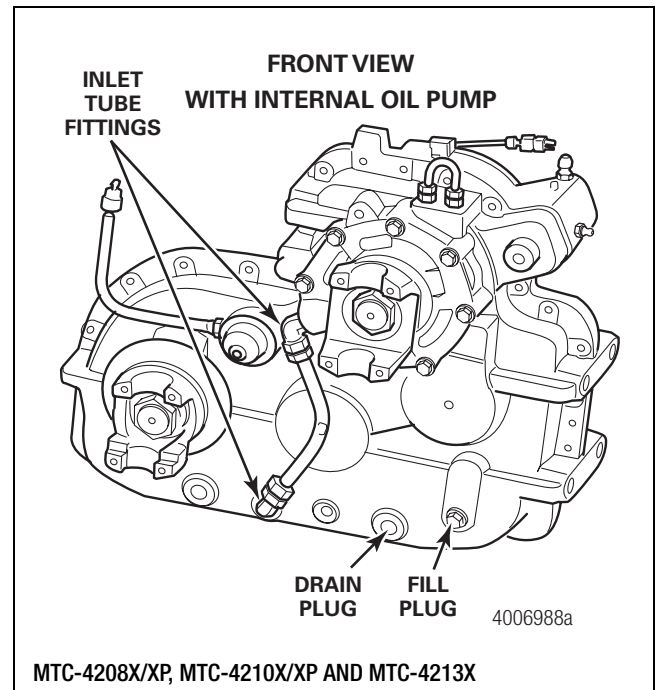

Figure 4.10
1. On transfer cases with an internal oil pump, remove the inlet oil tube from the transfer case by loosening the fittings at the lower front case and input-bearing cage. Figure 4.10.